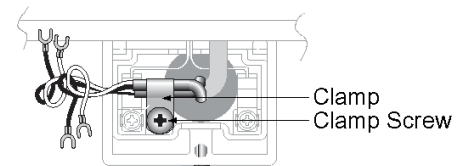

Fig.3
11. Loosen the clamp screw and secure wire cable with clamp. The clamp is in the box with the remote controller. Make sure the length of the wire is long enough. There should be no tension in the wire. (Figure 3)